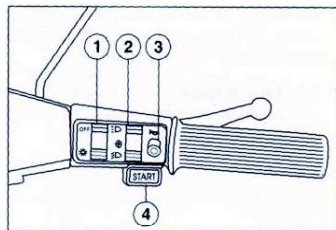

Fig. 21
2.1 Right hand side of the handlebar (Fig. 21).